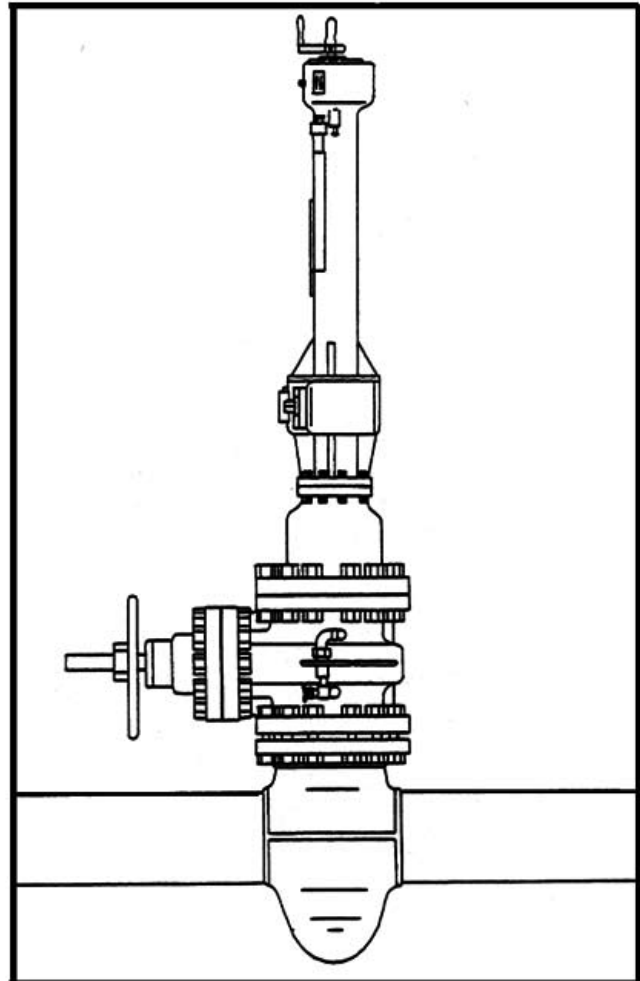

FIGURE 10
7. Place the machine (with adapter and drilling equipment assembled) in drilling position on gate valve and bolt adapter solidly to valve flange. **Figure 10.** Check to be sure that the gasket is in good condition and in place.